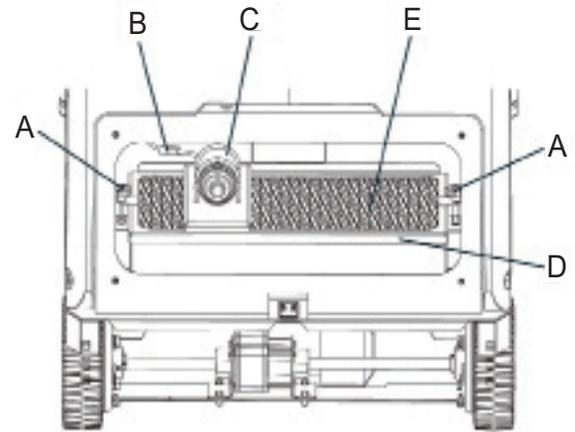
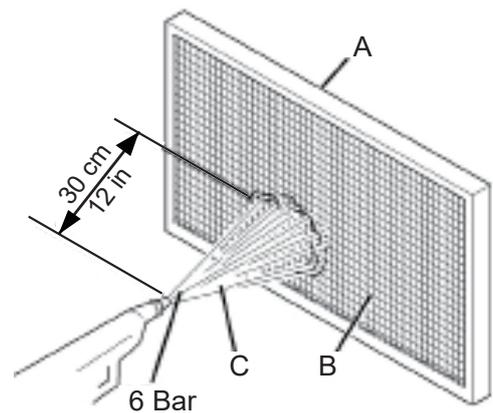

Figure9
Figure10
- 1) Drive the machine on a level floor and release the pedal (2) and stop the machine.
- 3) Disengage the hook (29) by pulling its lower end.
- 4) Remove the hopper (28) by using the handle (30) and by using hand and by disengaging it from the inner guides.
- 5) Unscrew the knobs (37) and remove the filter compartment cover (36).
- 6) Loosen the knobs (A, Fig.9).
- 7) Disconnect the connector (B, Fig.9) from the filter shaker motor (C).
- 8) Remove the dust filter fastening frame (D, Fig.9).
- 9) Remove the dust filter (E, Fig. 9).
- 10) In an outdoor area, clean the filter by shaking it on a level and clean surface, tapping the side (A, Fig. 10) opposite to the wire gauze (B).
Complete the cleaning procedure by using compressed air (C, Fig. 10) at maximum 6 Bar, blowing only from the side of the wire gauze (B), at a minimum distance of 11.8 in (30 cm).
- 13) Clean the rubber gasket (A, Fig.10) of the cover (36) and check it for integrity and efficiency; if necessary replace it.
- Install the filter (E, Fig. 9) with the wire gauze (B, Fig. 10) facing upwards.